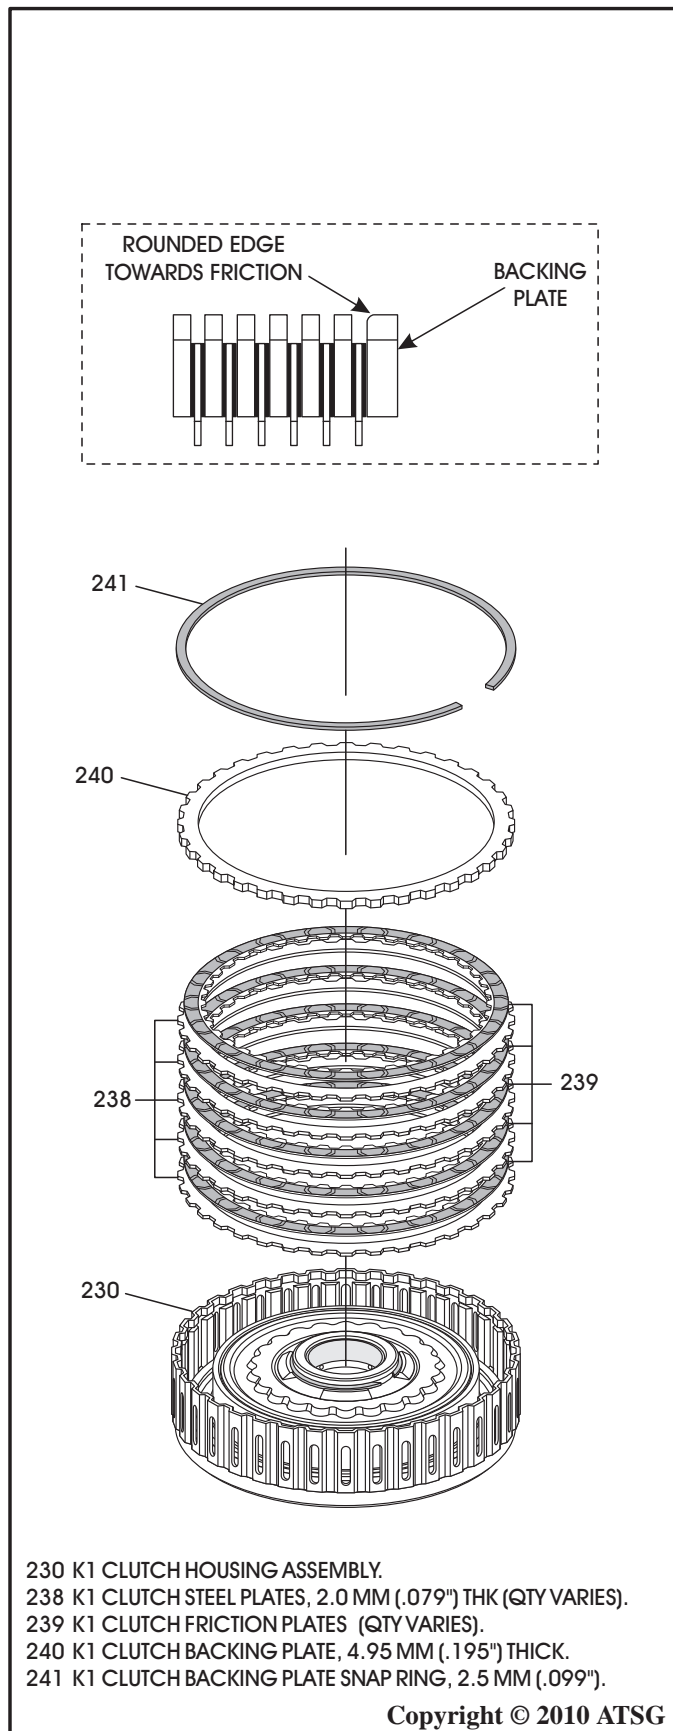

Figure 128
11. Install the K1 clutch plates beginning with a steel plate and alternating with the friction plates, as shown in Figure 128, until you have the proper amount installed as quantity varies.
12. Install the K1 clutch backing plate, as shown in Figure 128, with the rounded edge facing the friction plate (See Figure 128).
13. Install the K1 clutch backing plate snap ring, as shown in Figure 128.